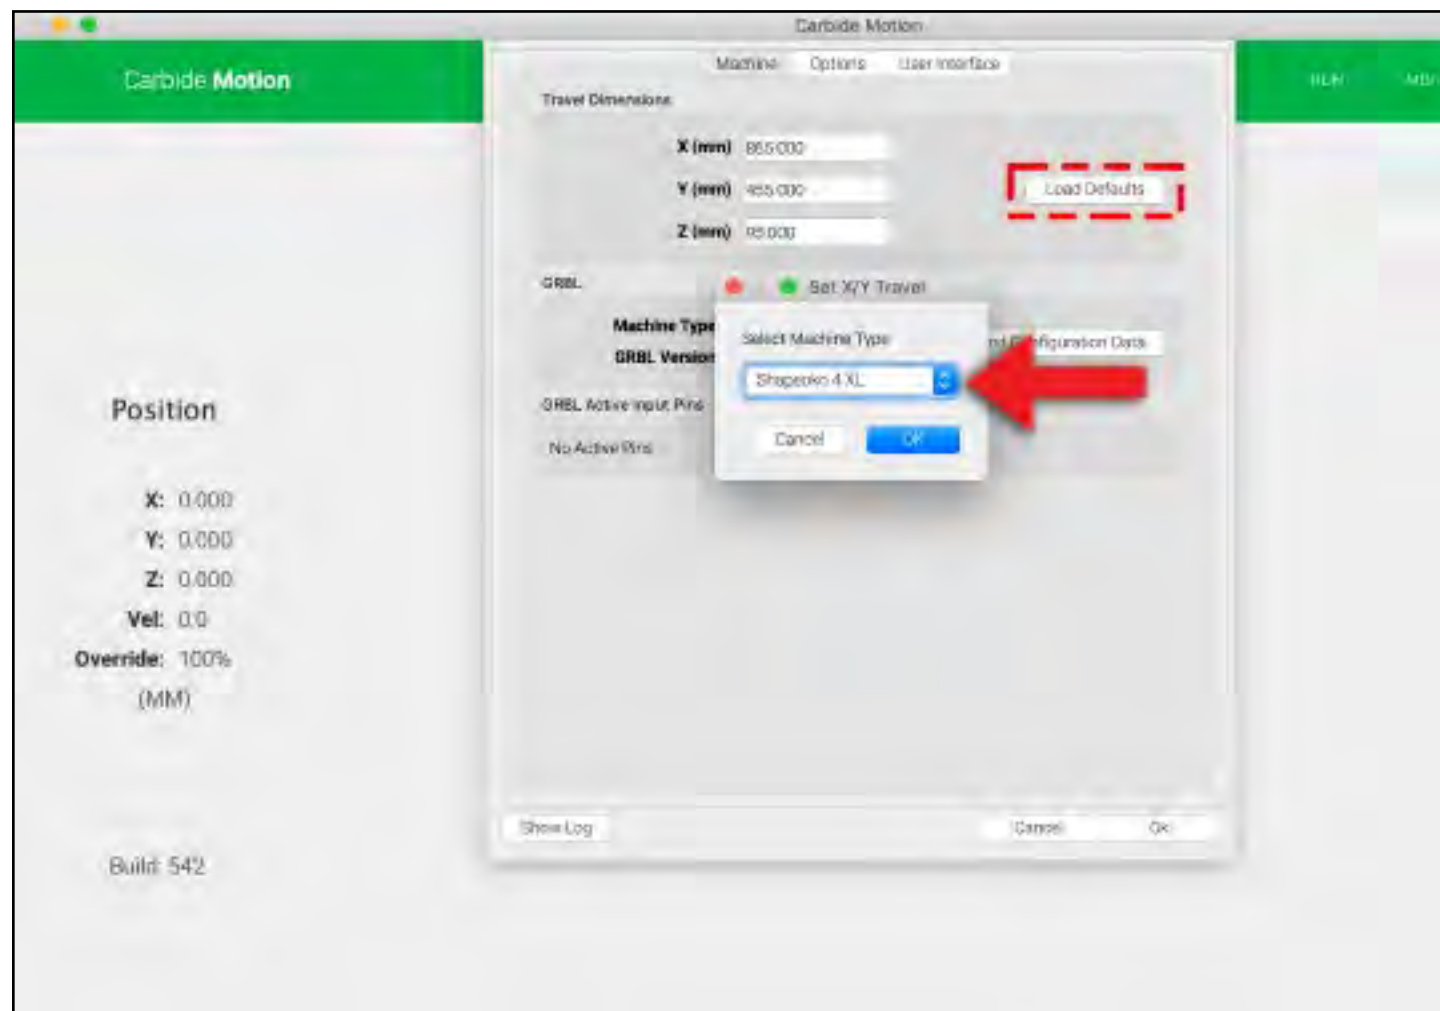

Figure 10-4
6. Once the configuration settings finish sending, click the **Load Defaults** button at the top of the *Settings window*. See **Fig. 10-4**.
7. In the *Set X/Y Travel* popup, select “**Shapeoko 4 XL**” from the dropdown list, and click **OK**. See **Fig. 10-4**.